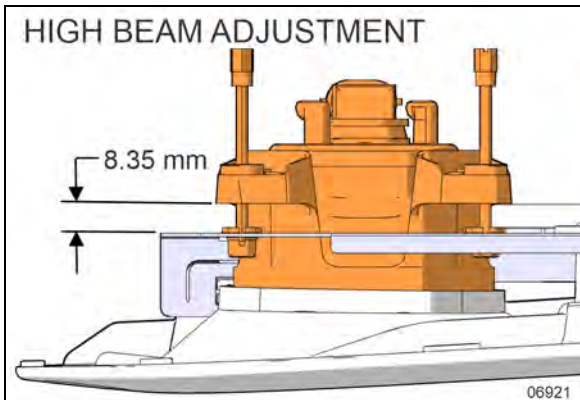
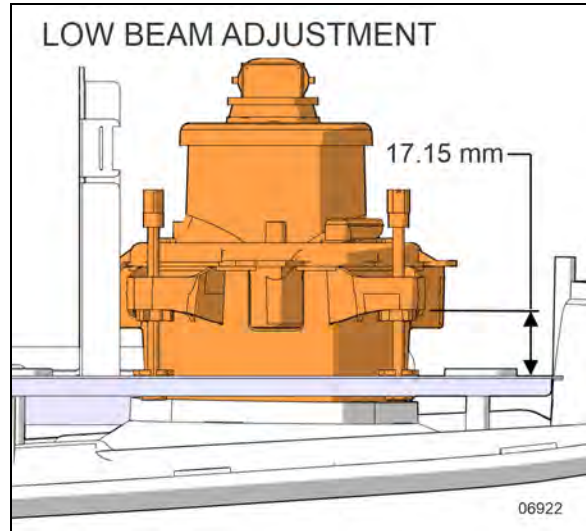

FIGURE 76: HIGH BEAM ADJUSTMENT
FIGURE 77: LOW BEAM ADJUSTMENT
9. Adjust the headlamp module height in relation to the metal support at each threaded rod. Screw threaded rods until height of the headlamp module reaches the values shown in Figure 76 and Figure 77.